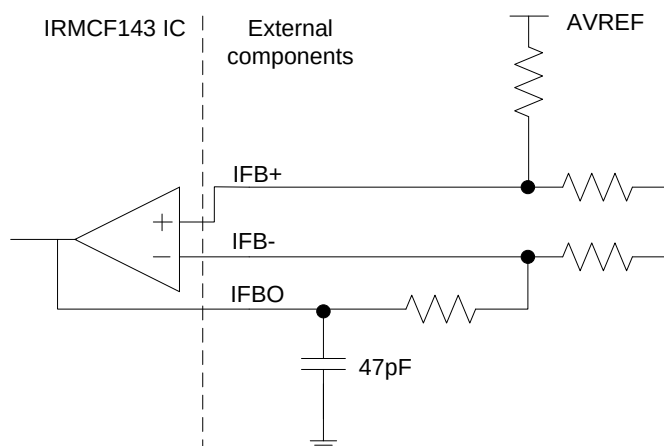

Figure 7 Op amp output capacitor
(1) Data guaranteed by design.
(2) To guarantee stability of the operational amplifier, it is recommended to load the output pin by a capacitor of 47pF, see Figure 7. Here only Op-amp 1 is shown but all op amp outputs should be loaded with this capacitor value.